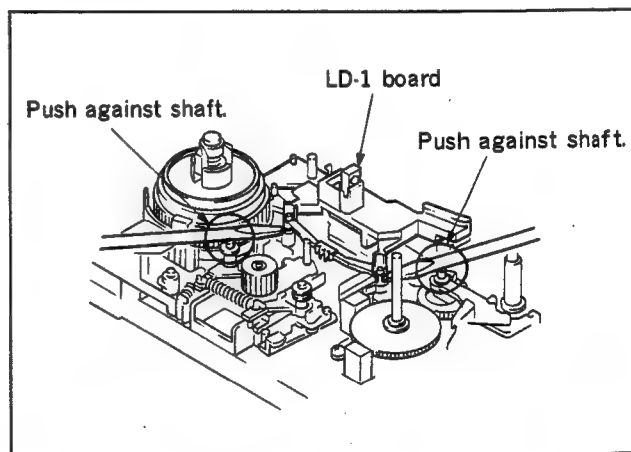

Fig. 4-23-3 Detailed drawing of removal of LD-1 board ass'y
3. LD-1 board ass'y removal (Fig. 4-23-3)